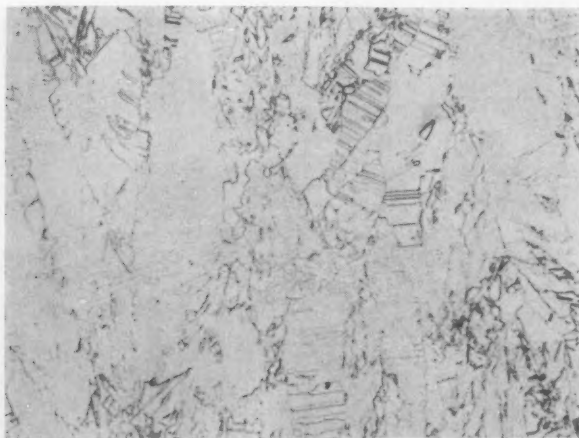

Figure 16. Copper Deposit showing Twinning X250.
1. **ELECTROLYTE CONCENTRATIONS.** The type of electrolyte plays a very big part in determining grain size. There are two main classes covering the majority of commercially used plating solutions, namely, acid and cyanide. Deposits from acid baths (for example, copper and nickel) are normally large-grained, columnar and, incidentally, are frequently twinned (Figure 16). Cyanide baths, on the other hand, invariably give very fine grained, often microscopically irresolvable, de-